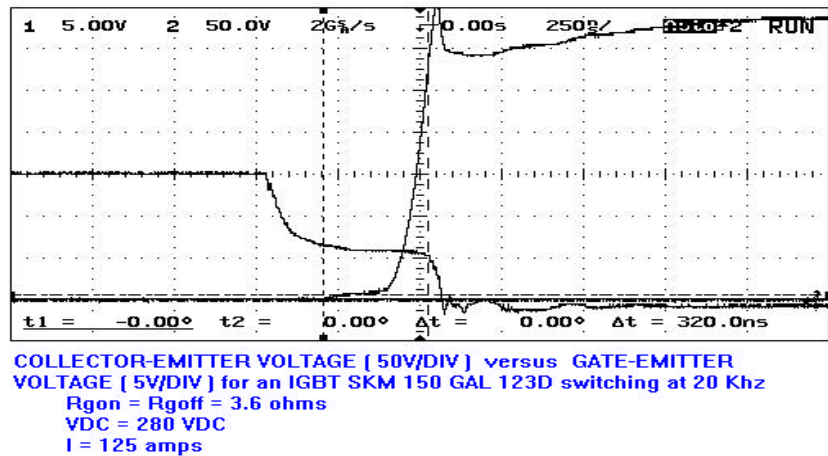

Figure 6
- In figure 6 the collector-emitter and gate emitter voltage are displayed for the turn-off situation of an IGBT SKM 150 GA.